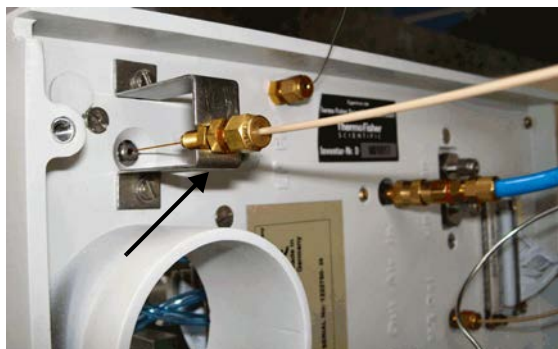

Figure 8-17. Low flow connector for GasBench Plus sample gas capillary
4. Connect the 0.32 mm ID fused silica capillary to the LF port of the ConFlo IV interface. See Figure 8-17 which shows the low flow connector for the sample gas capillary of the GasBench Plus device at the rear panel of the ConFlo IV interface.